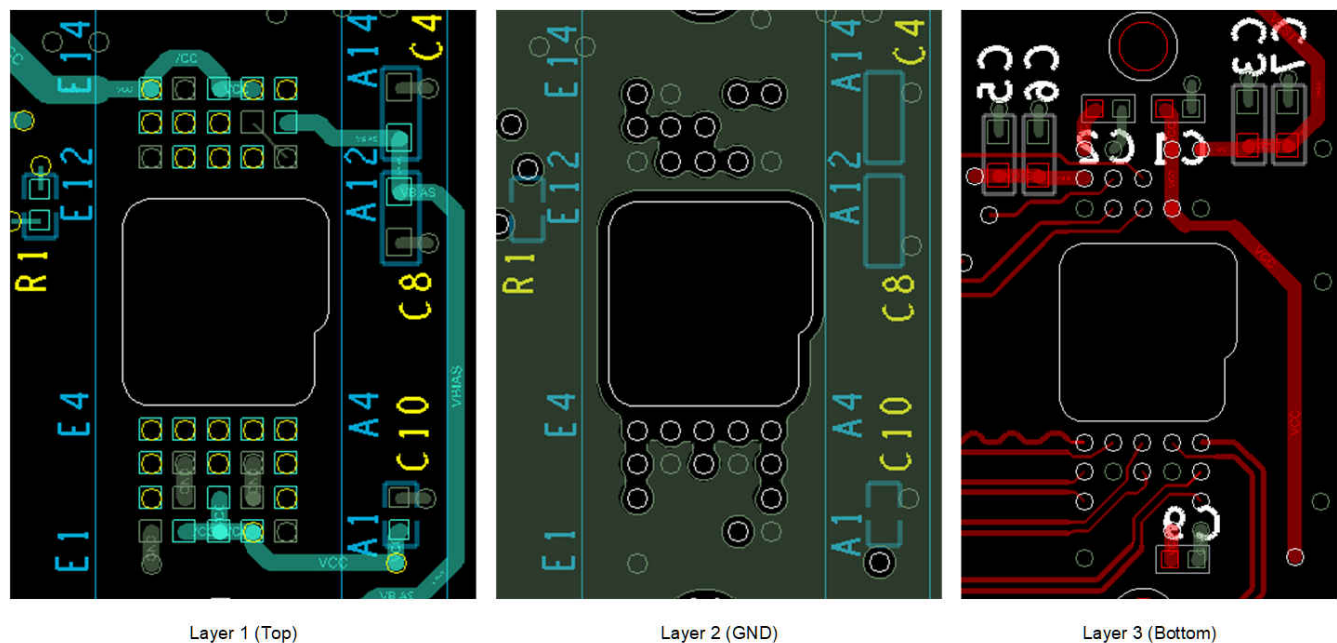

Figure 10-1. Power Supply Connections
- Minimize vias, layer changes, and turns for the HS bus signals. Refer to Figure 10-1.
- Minimum of two 100-nF (25 V) capacitors - one close to V_{BIAS} pin. Capacitors C4 and C8 in Figure 10-1.
- Minimum of two 100-nF (25 V) capacitors - one close to each V_{RST} pin. Capacitors C3 and C7 in Figure 10-1.
- Minimum of two 220-nF (25 V) capacitors - one close to each V_{OFS} pin. Capacitors C5 and C6 in Figure 10-1.
Capacitors C1, C2, C9 and C10 in Figure 10-1.